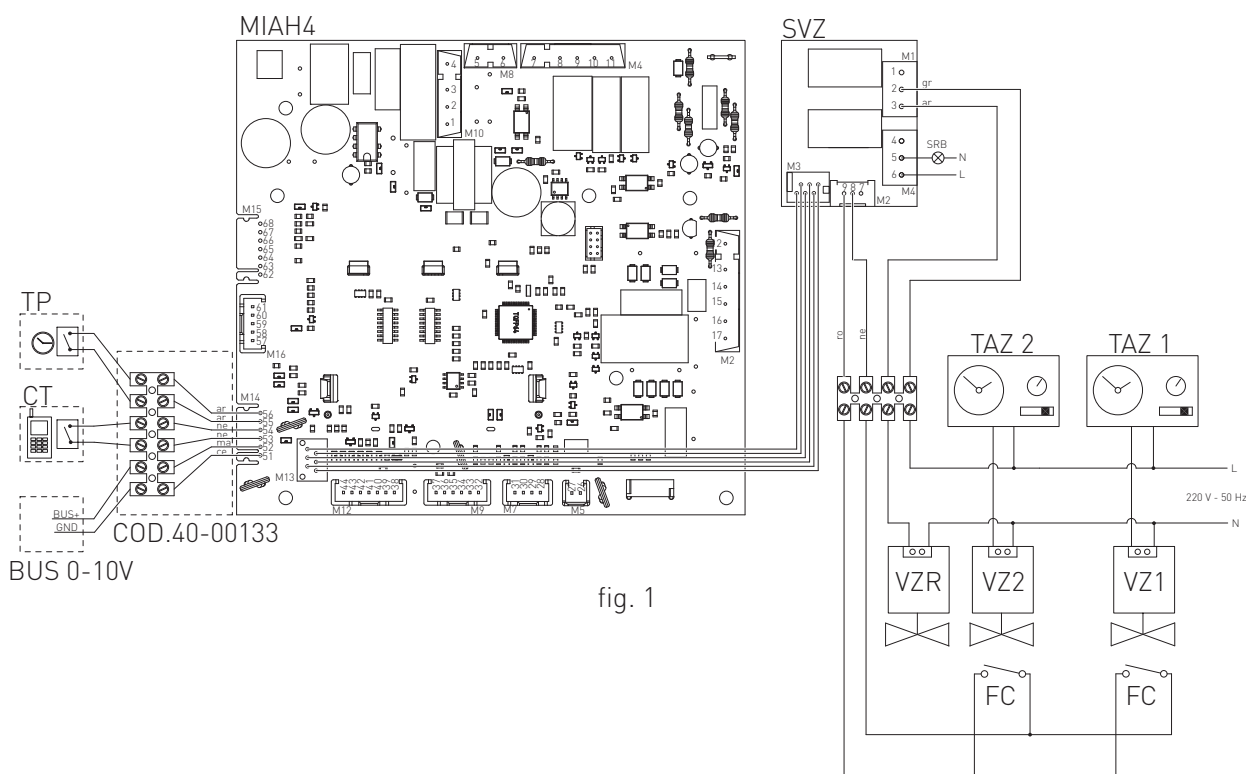

fig. 1
- (TP) DOMESTIC HOT WATER PRE-HEATING DEACTIVATION TIMER
- (CT) TELEPHONE DIALER
- › after removing the crankcase, connect the items below to the electronic board (see fig. 1):